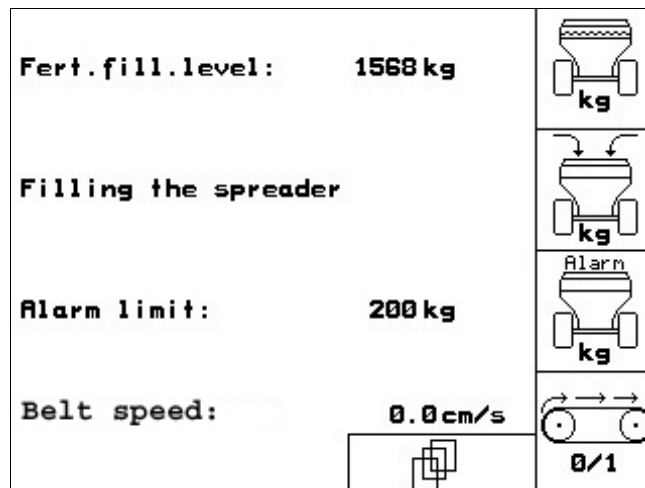

Fig. 19
- **ZG-B drive:** (Fig. 19) Switch on floor belt (for hopper emptying).